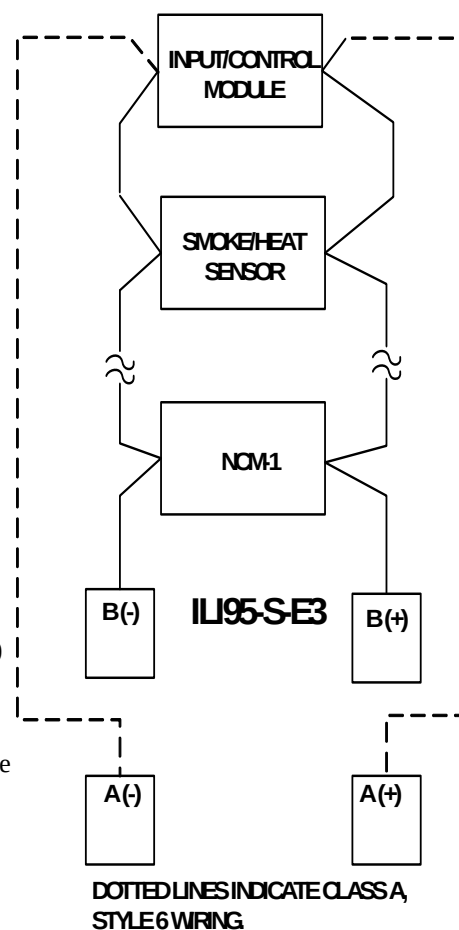

Figure 3.5.1.1 Signaling Line Circuits
The ILI95-S-E3 provides two (2), 24 VDC Class A, Style 6, 7 or Class B, Style 4 signaling line circuits. See Figure 3.5.1.1 for wiring information. Style 7 wiring requires the use of an M500X Isolator Module, (ILI-S-E3), or XP95-LI Line Isolator or XP95-LIB Line Isolator Base (ILI95-S-E3) on both sides of a device.